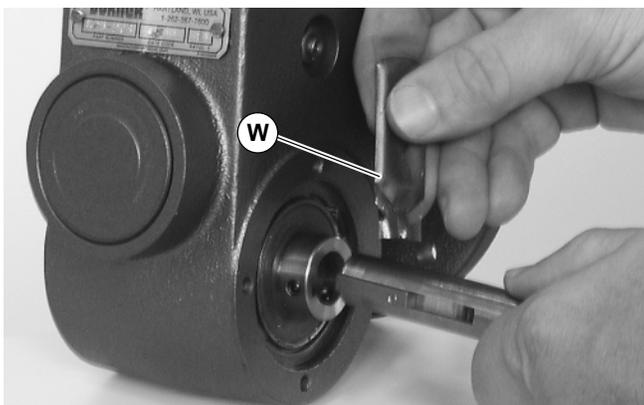

Figure 13
- Remove two (2) screws (Q) and detach output shaft cover (R).
- Remove gear reducer output shaft key (S).
- Apply Loctite® 680 Adhesive (W of Figure 13) to new shaft.